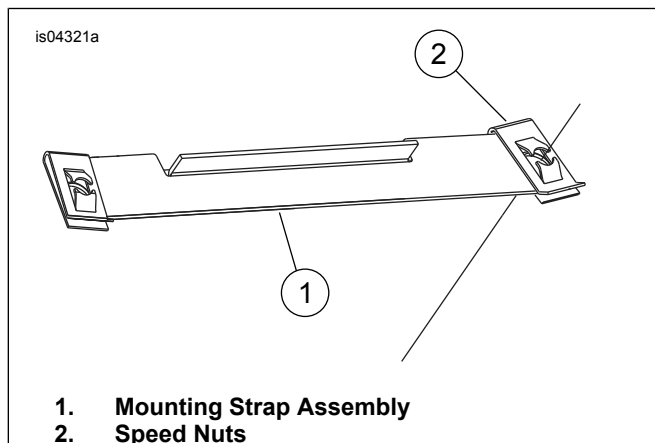

Figure 1. Install Speed Nuts to Mounting Strap
3. See Figure 1. Assemble speed nuts (2) to both ends of mounting strap (1) and align edges of nuts to angled ends of strap.